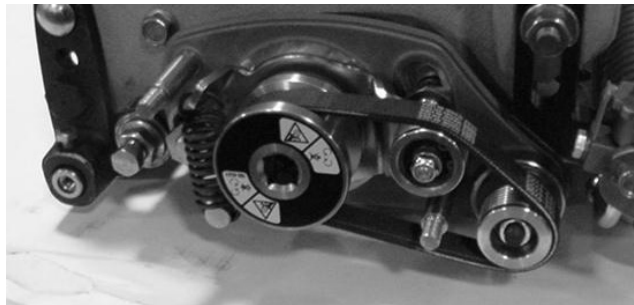

Figure 23
- 40. Insert the belt onto the driver pulley, idler pulley and driven pulley routing as shown in figure 23. Make sure belt is centered on all pulleys.